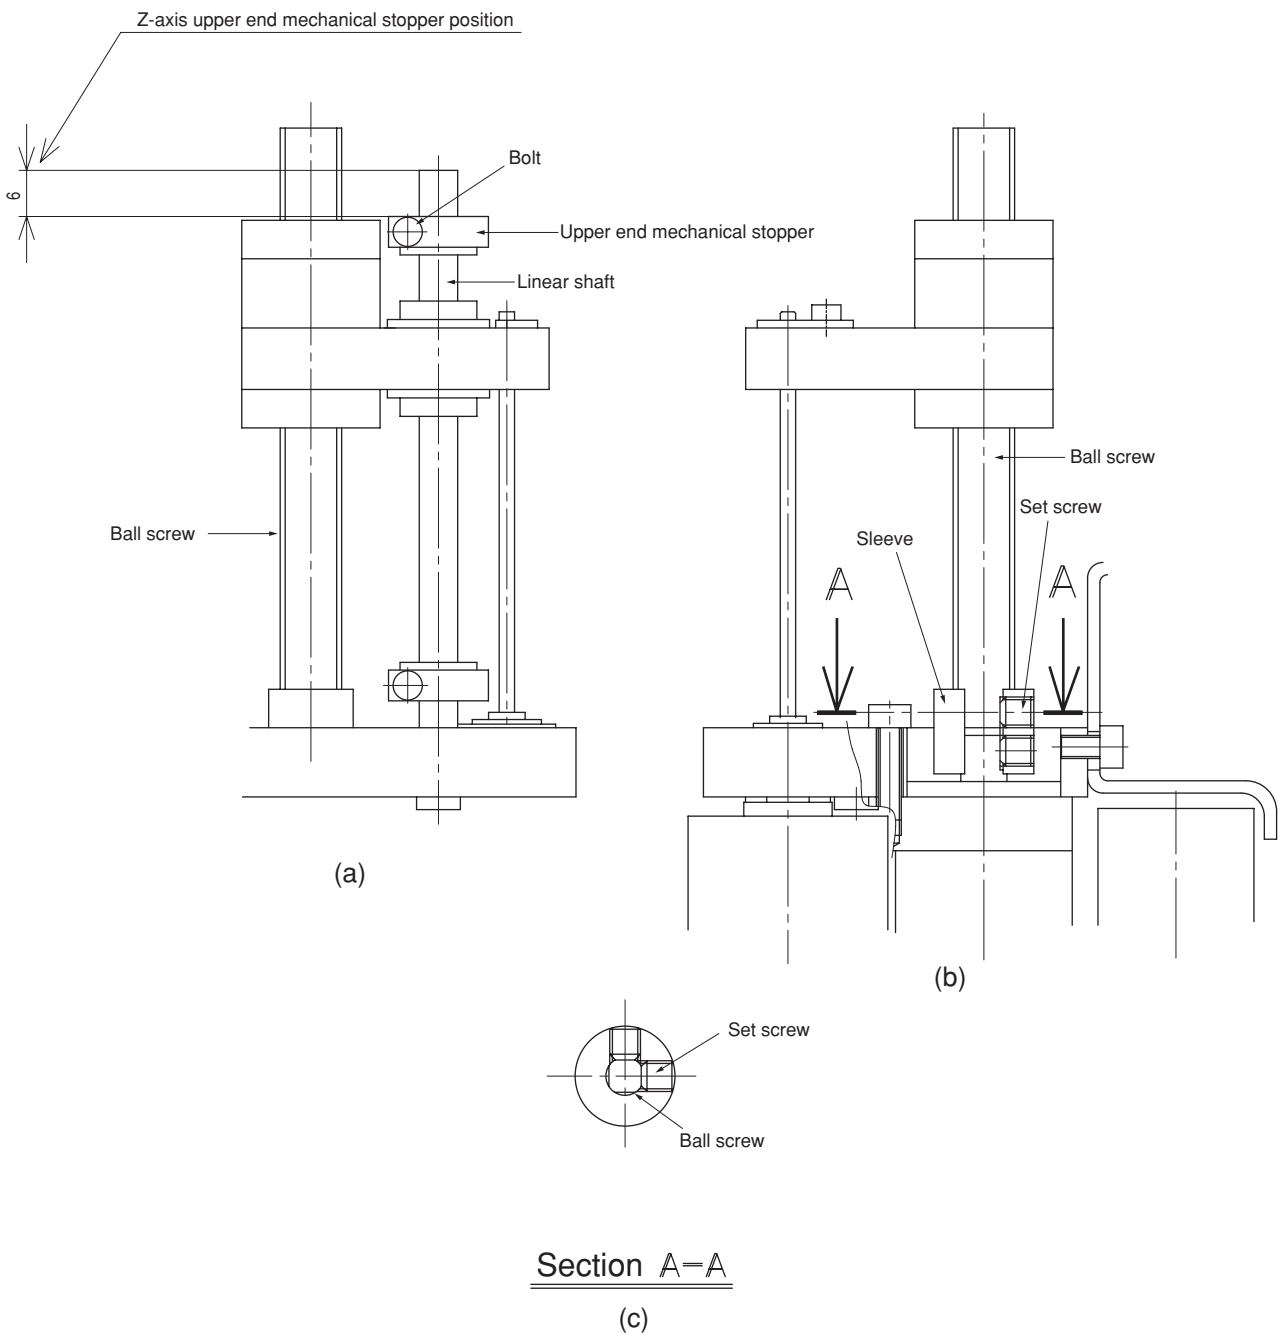

Fig. 4-11
- 7) Confirm that the Z-axis rising end mechanical stopper is at the position shown in Fig. 4-11 (a).
- 10) Loosen the set screw (two screws on upper side) fixing the ball screw in Fig. 4-11 (b), and change the phase of the ball screw in respect to the sleeve as shown below.